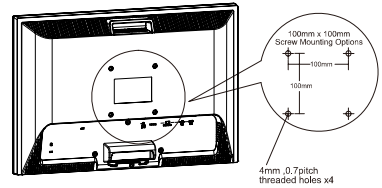

Figure 1-4
The rear of this LCD display has four integrated 4 mm, 0.7 pitch threaded nuts, as well as four 5 mm access holes in the plastic covering as illustrated in Figure 1-4. These specifications meet the VESA Flat Panel Monitor Physical Mounting Interface Standard (paragraphs 2.1 and 2.1.3, version 1, dated 13 November 1997). Note: Please using M 4mm x 16mm (L) screw for this application.